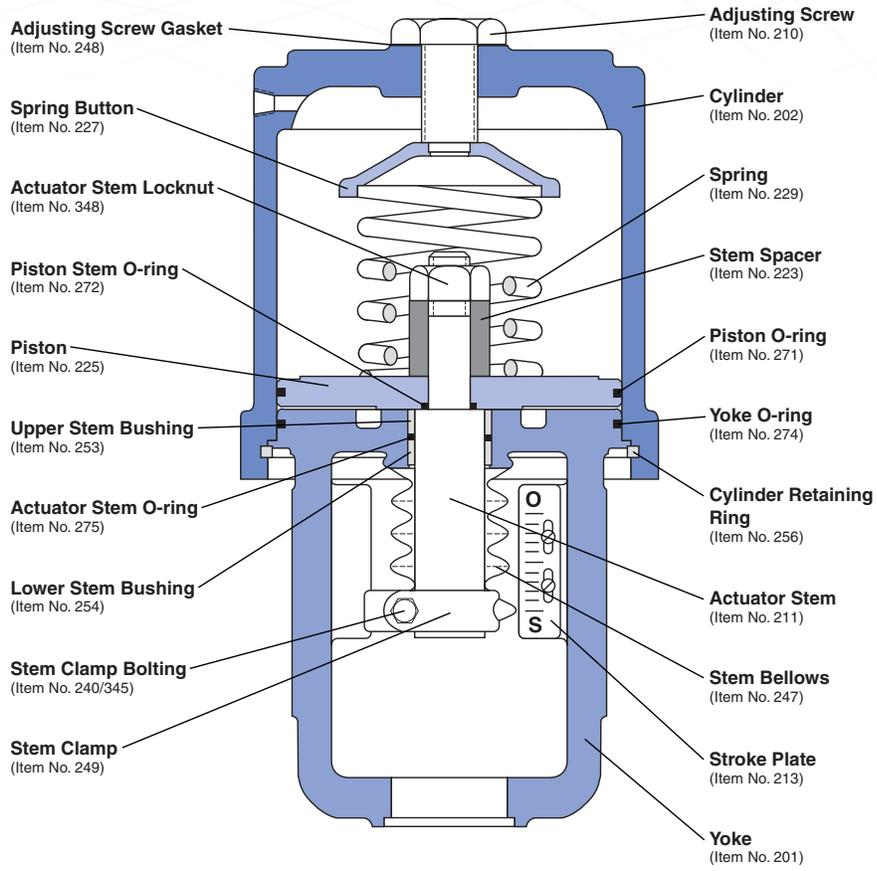

Figure 1: Air-to-retract Cylinder Actuator
Refer to Figures 1 through 5 to disassemble the cylinder actuator.
7. For air-to-retract configurations, remove the spring(s) and spring button for cleaning and inspection (see Figures 1, 3 and 5). Remove the actuator stem locknut and slide the piston and stem spacer off the actuator stem. The spring guide should be removed when using heavy-duty spring designs.
To reassemble the cylinder actuator, refer to Figures 1 through 5:
3. Lubricate the outside of the replacement bushings if the stem bushings have been removed. Press a new lower stem bushing into the actuator stem bore in the yoke until it bottoms out. Press the upper stem bushing into the bore until it is flush with the top of the yoke (refer to Figures 1 or 2).
5. Reassemble the piston, piston stem O-ring and stem spacer on the actuator stem according to the proper air-action (refer to either Figure 1 or 2). Replace the piston O-ring. Air-to-extend configurations require the spring button to be stored under actuator stem locknut. Tighten the locknut firmly.
To change the air action from air-to-retract to air-to-extend, or vice versa, refer to Figures 1, 2 or 5: